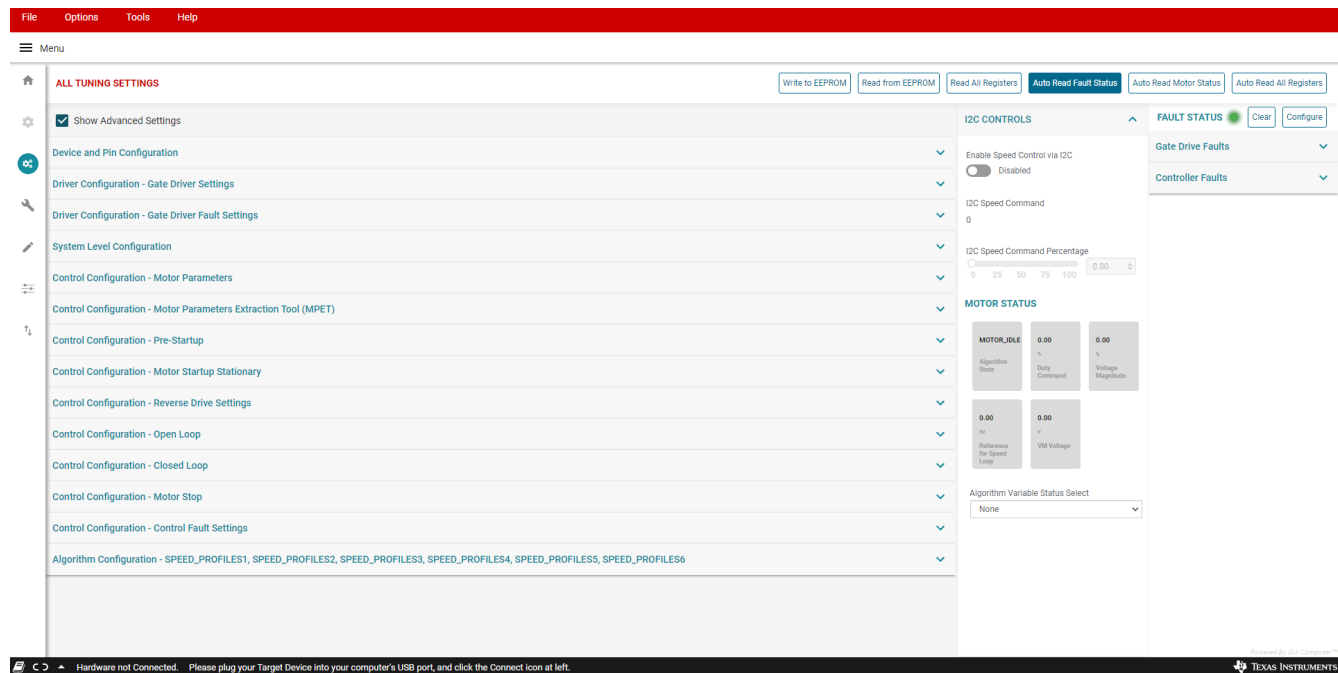

Figure 3-1. Fault Status
- b. Clear the fault status registers by clicking on the “Clear” button in the Fault Status side panel to the right as shown in Figure 3-1